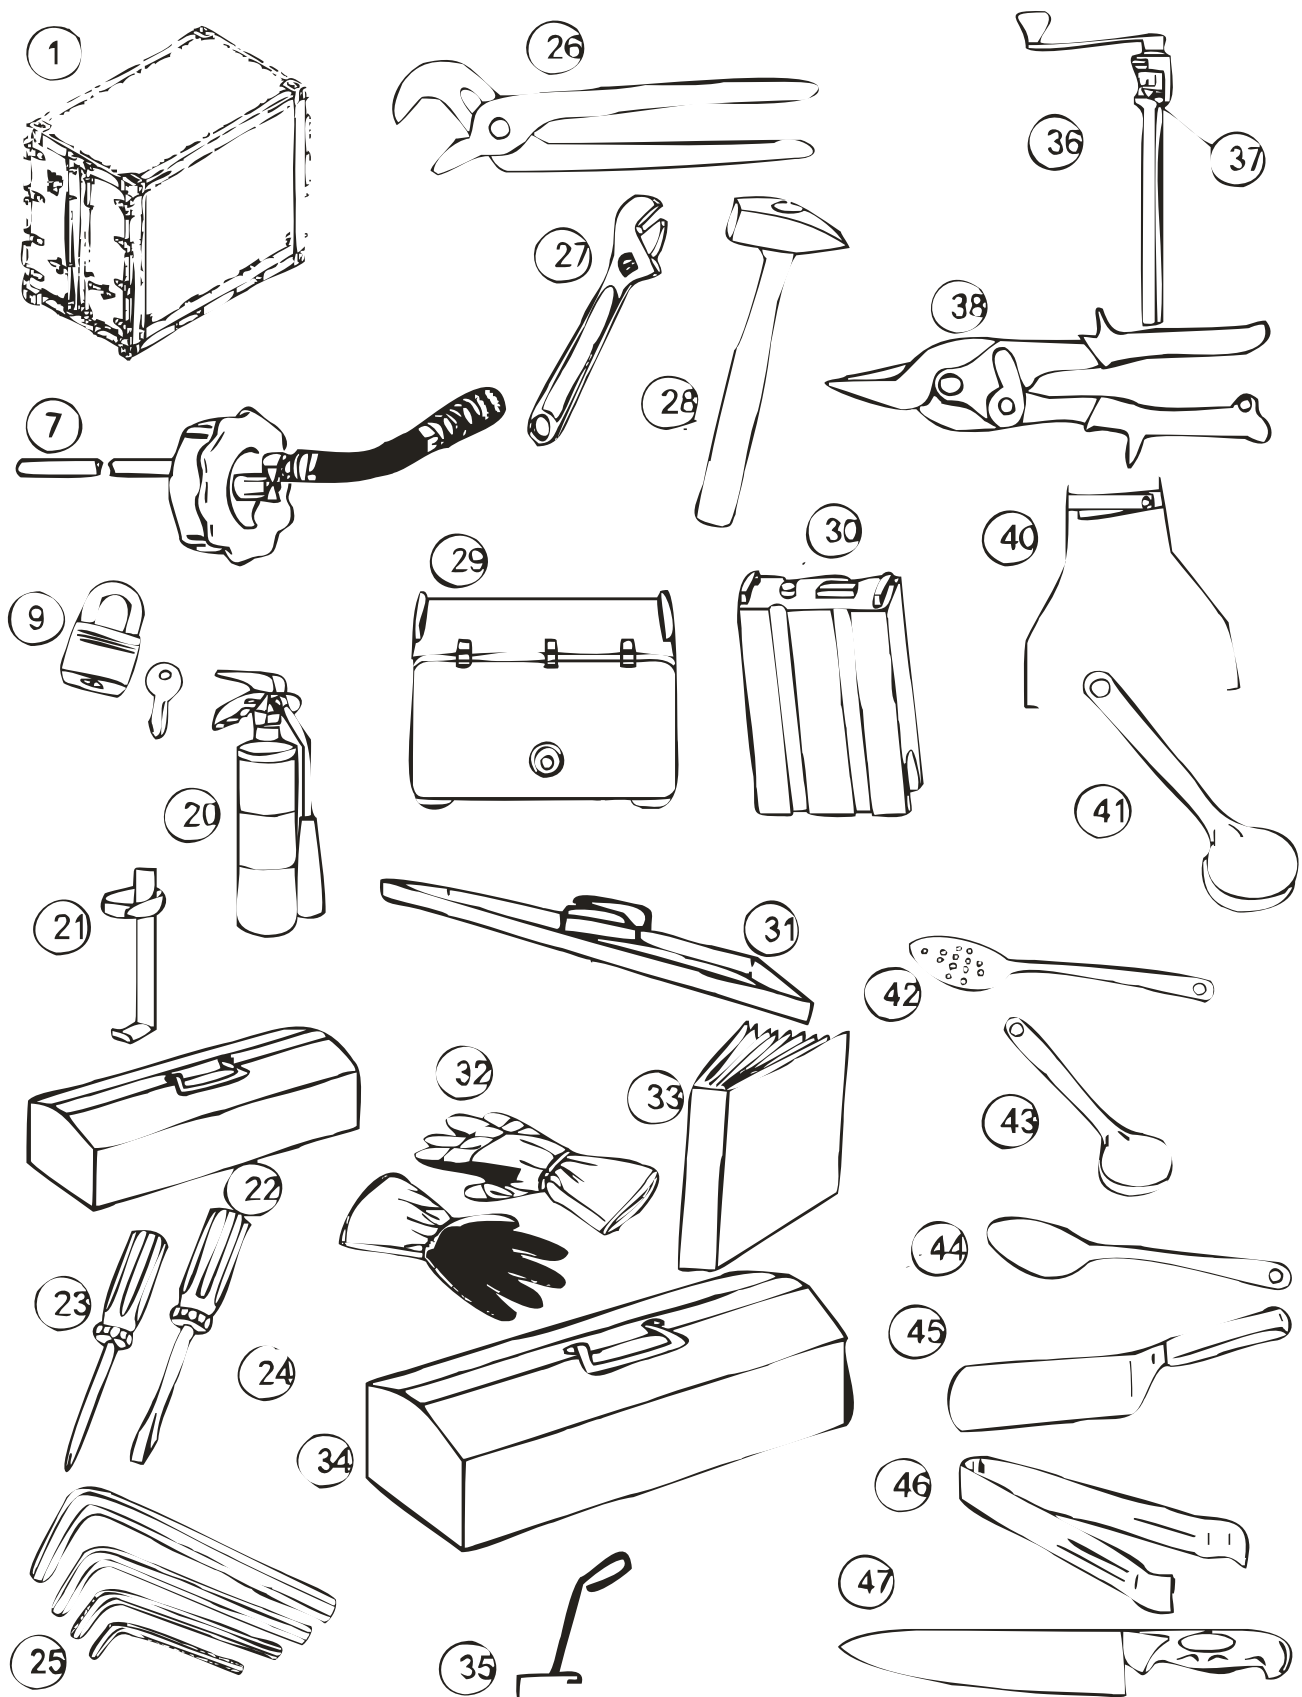

Figure A-1. Component Parts/Collateral Equipment
- finish for tightening both square and hexagonal-head nuts and bolts. Has an open end rack and worm adjustment. Head is angled at $22\frac{1}{2}^{\circ}$. Consists of a frame (fixed jaw and handle) and a movable jaw and adjusting work. Jaw capacity is $\frac{15}{16}$ ". Size is $7\frac{1}{2}$ " to $8\frac{1}{2}$ " long.] (figure A-1)
- 28 5120-00-900-6103 1 Hammer (Peen), Blacksmith's/Engineer's, 3-Pound [Short-handled for driving tent pins. Handle length is approximately 16". Heavy-duty hammer has forged steel head with corrosion preventive coating. Has an octagonal face on one end of the head and a cross peen on the other end. End of peen is rounded and smooth. Cross peen is at a right angle to the handle axis.] (figure A-1)
- 29 200 MPC 3 Pan Carriers, Side-Loading [Cambro] (figure A-1)
- 30 7320-01-093-7371 6 Beverage Containers, 5-Gallon [Cambro] (figure A-1)
- 31 CE-TDB-001 2 Tiedown Straps, Beverage Containers/Pan Carriers [Comet Enterprises] (figure A-1)
- 32 2PX17 2 Gloves, Thermal, pr [Fire retardant, 17"-long oven mitts. Meet U.S. Government standards for heat and flame resistance. Water and stain repellent. Wipe clean. Wide palm.] (figure A-1)
- 33 PCN18409211000 1 Technical Manual (figure A-1)
- 34 7716 1 Utensil Box, Portable [General-use tool box for carrying all foodservice utensils, including can opener (Rubbermaid).] (figure A-1)
- 35 HNV300 1 Tray Pack Handling Tool [Babington Enterprises] (figure A-1)
- 36 S-11 1 Can Opener, Edlund #1, Stainless Steel [Manual can opener opens any size can, up to and including #10 round, 7" square, and 7" oblong. Easily cleaned and sanitized. Table-mounted, hand crank-operated opener. Furnished with three additional cutting wheels and feed wheels. Modified shaft, without table bracket (Edlund).] (figure A-1)
- 37 7330-01-234-2204 1 Can Opener, Knife [Edlund] (figure A-1)
- 38 5110-00-273-0128 1 Tin Snips [Aviation, $1\frac{3}{16}$ " cutting length, approximately 10" long overall. Compound lever action for easy repetitive cutting. Blades are drop forged alloy steel and finely serrated to prevent slipping. Snips have cushion-grip handle and safety latch. Cutting capacity for cold rolled steel is 22 gauge.] (figure A-1)